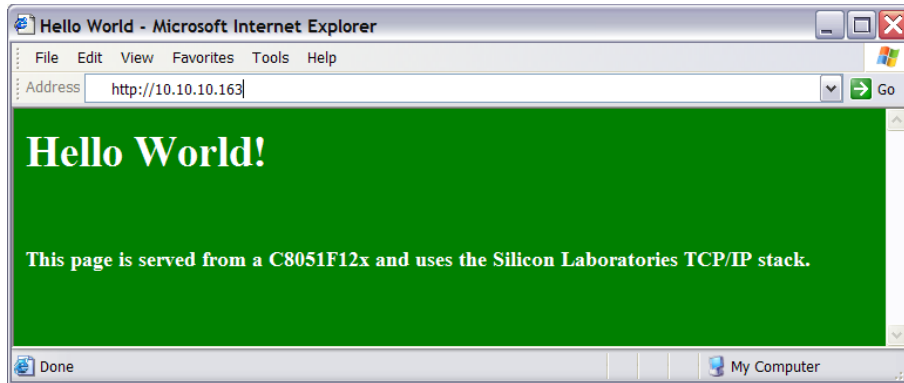

Figure 20. Hello World Web Page
10. The default web browser should launch and display the home page served by the embedded web server. The same result can be achieved by typing the IP address of the embedded web server into the address bar of a web browser. Figure 20 shows a screenshot of the uWeb-v2.0 home page.